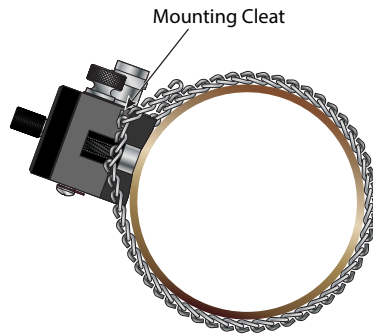

Figure 5: Transducer mounting chain hooked onto mounting cleat
5. Wrap the mounting chains around the pipe and secure the chains to their respective mounting cleats. See *Figure 5*.